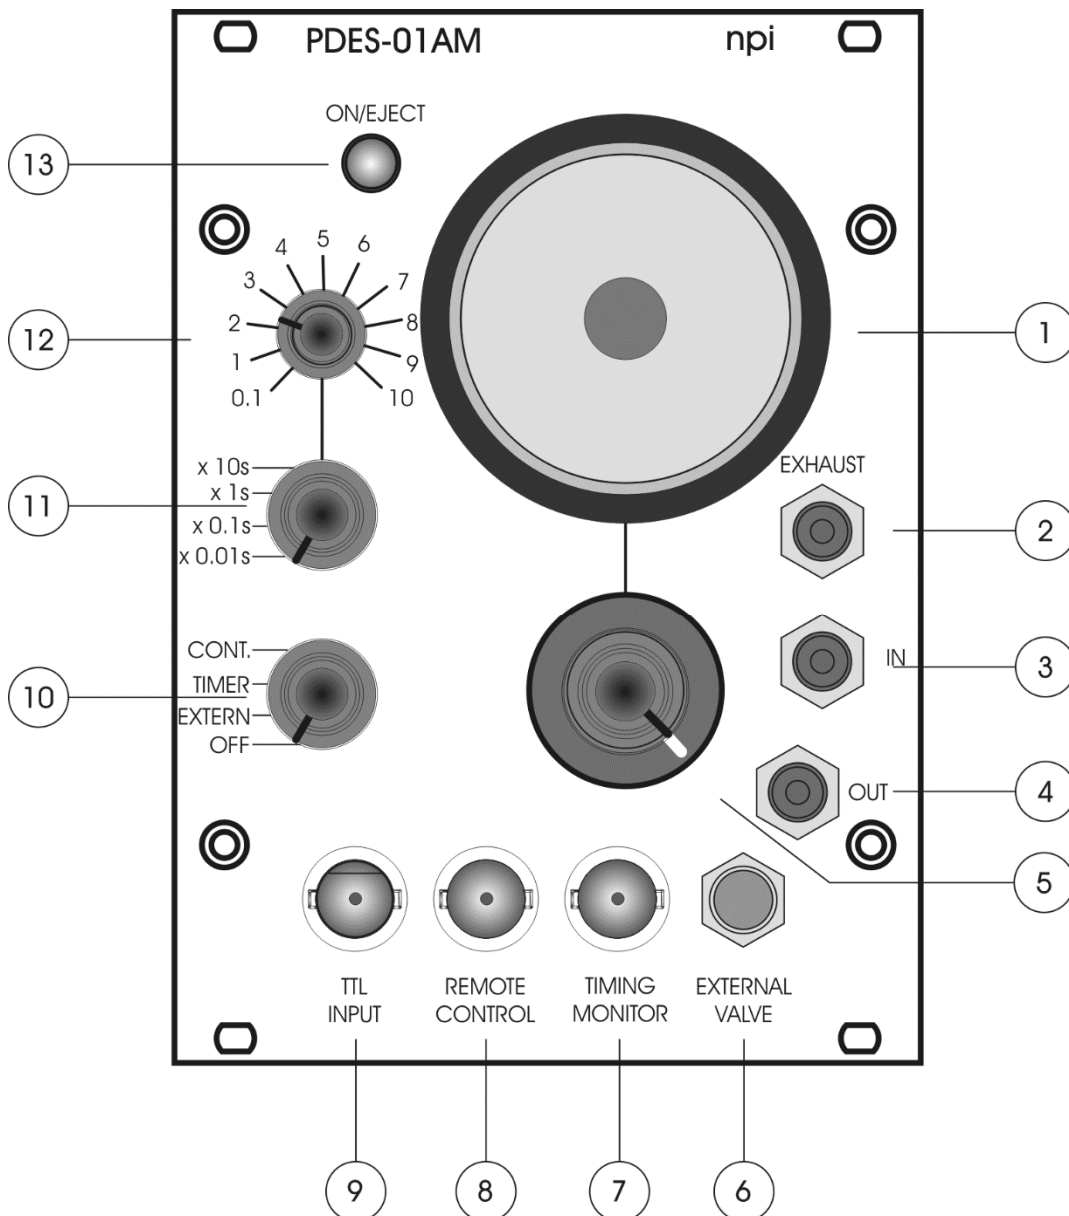
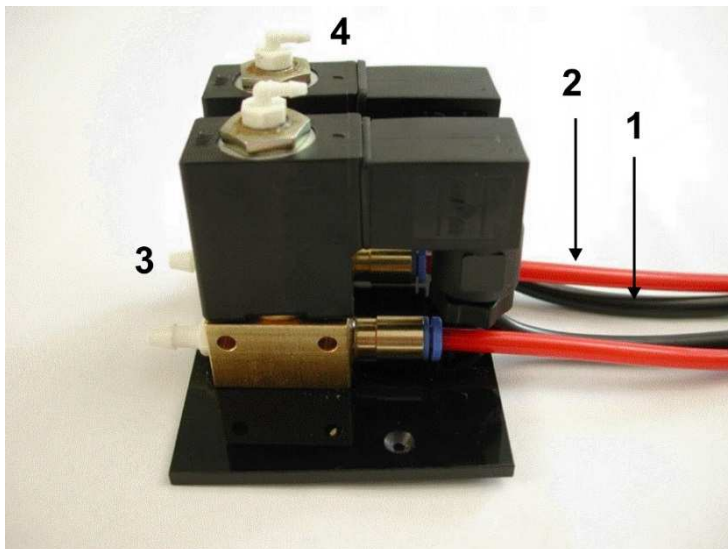

Figure 5: PDES-01AM front panel view (the numbers are related to those in the text below)
Figure 6: external valves on remote valve plate
The valve which is controlled by the PDES is located on the remote valve plate (see Figure 6). Tubing and cable of the external valves are connected at the front panel of the PDES system (refer to chapter 3.3). Exhaust is usually not connected.
- ❑ connect the *microJECT* pipette holder to the two *microJECT* connectors at the front panel (#4 OUT and #5 EXTERNAL VALVE, Figure 5), and connect your ejection pipette to the *microJECT* (#1, Figure 6).
- ❑ Connect a timing unit to the TTL INPUT connector (#9, Figure 5) at the front panel
connect a pushbutton to the REMOTE CONTROL connector (#8, Figure 5) at the front panel
- ❑ Select the operation mode using the toggle switch (#11, Figure 5) at the front panel.
- In the TIMER position the duration is preset by the timer control (#12, Figure 5) and time base (#11, Figure 5) of the PDES. Application is started with a TTL signal connected to TTL INPUT (#9, Figure 5) or by pressing the pushbutton connected to #8, Figure 5. In position OFF of the timer control for pressure ejection is disabled.
- In the OFF position the PDES module is turned OFF, the valve is closed. LED (#13, Figure 5) is also off. The source pressure value is still shown at the manometer #1, Figure 5, but opening of the valve is disabled in OFF position.
***Hint:*** Ejection time can be monitored by recording the signal at #7, Figure 5!